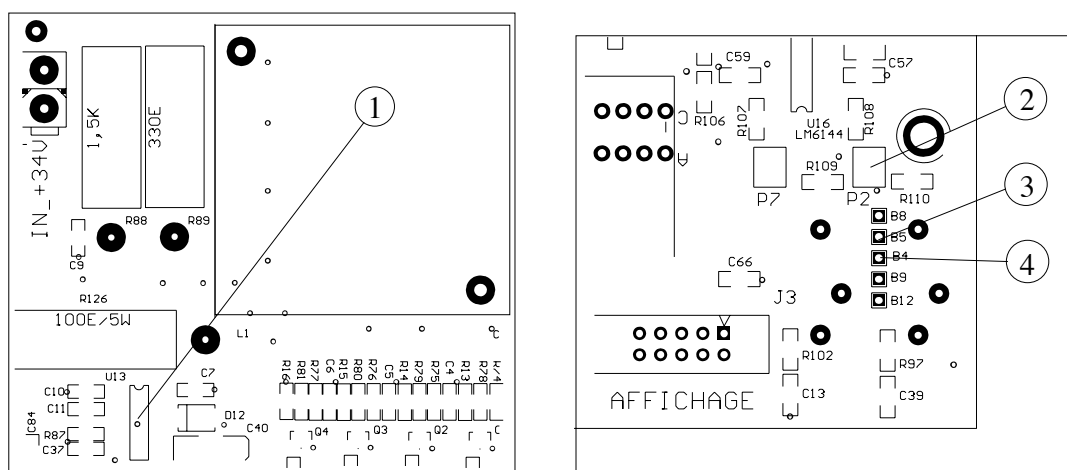

Figure 7.13.: TCU main board, oscillator check (left), current/voltage ratio adjustment (right).
6. Oscillator check (refer to figure 7.13): measure the frequency on the **pin 7** of **U13** (1); the value must be 28KHz + /- 3KHz.
7. Current/Voltage ratio adjustment (refer to figure 7.13)
- a) Adjust the trimmer **P4** (6) in order to read **B4** = 0.6V (4).
- b) Set the selector (5) to mode **Setting +I**: the LCD screen should display **1.00 A**.